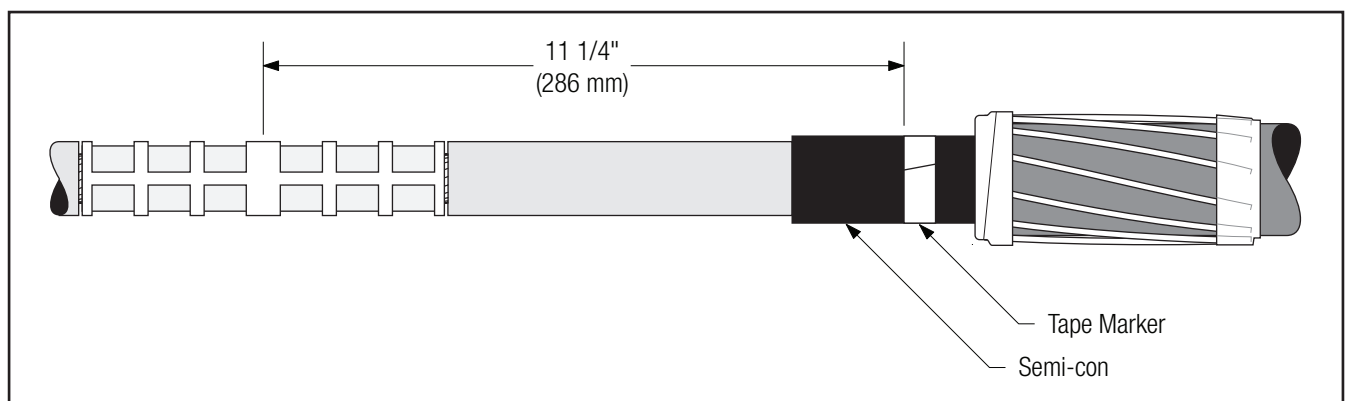

Figure 12
- 4.1 Apply a tape marker to semi-con insulation shield on cable which does not contain splice. Measure 11 1/4" (286 mm) from center of connector (*Figure 12*).